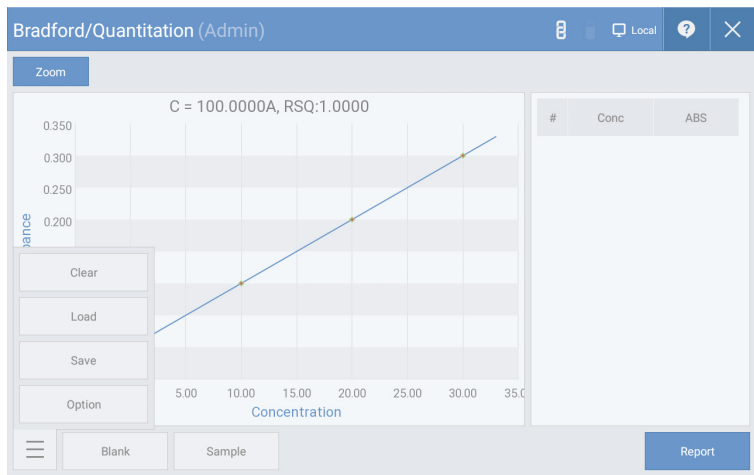

Fig. 3.3
2. Load the blank sample and click “Blank” shown in [Fig. 3.3] to measure the zero point.
4. Load the sample to be measured and click the “Sample” button shown in [Fig. 3.3] to begin measurement.